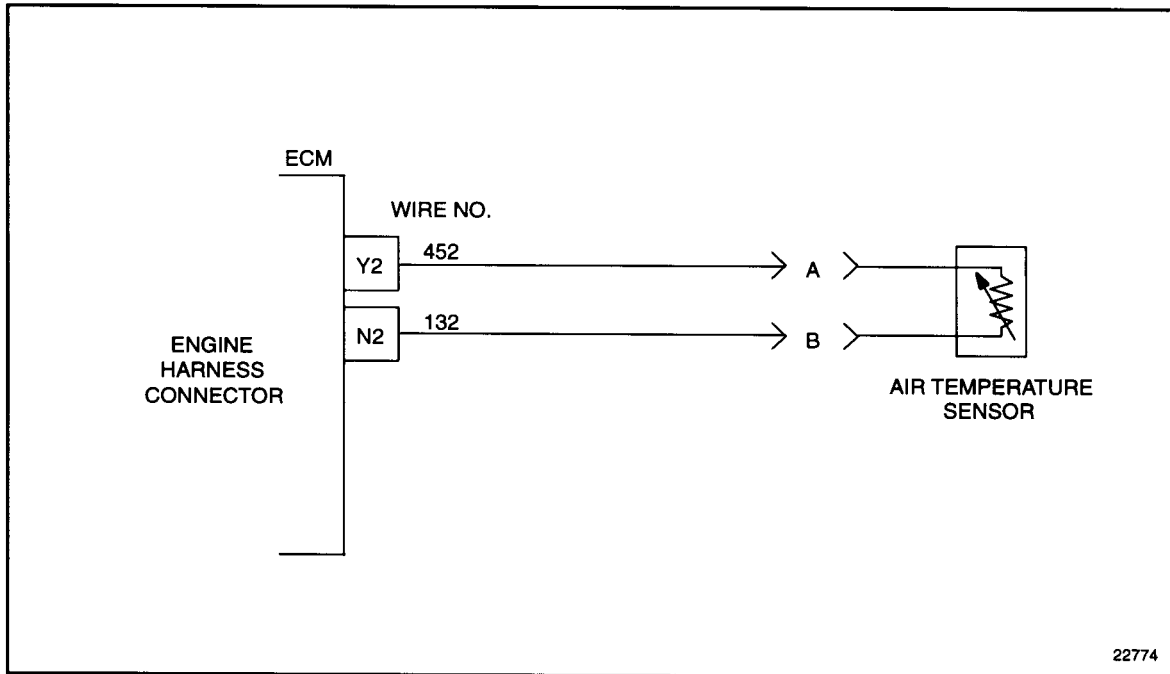

Figure 28-2 Engine Harness to Air Temperature Sensor Connector
2. Disconnect the ATS connector. See Figure 28-2.